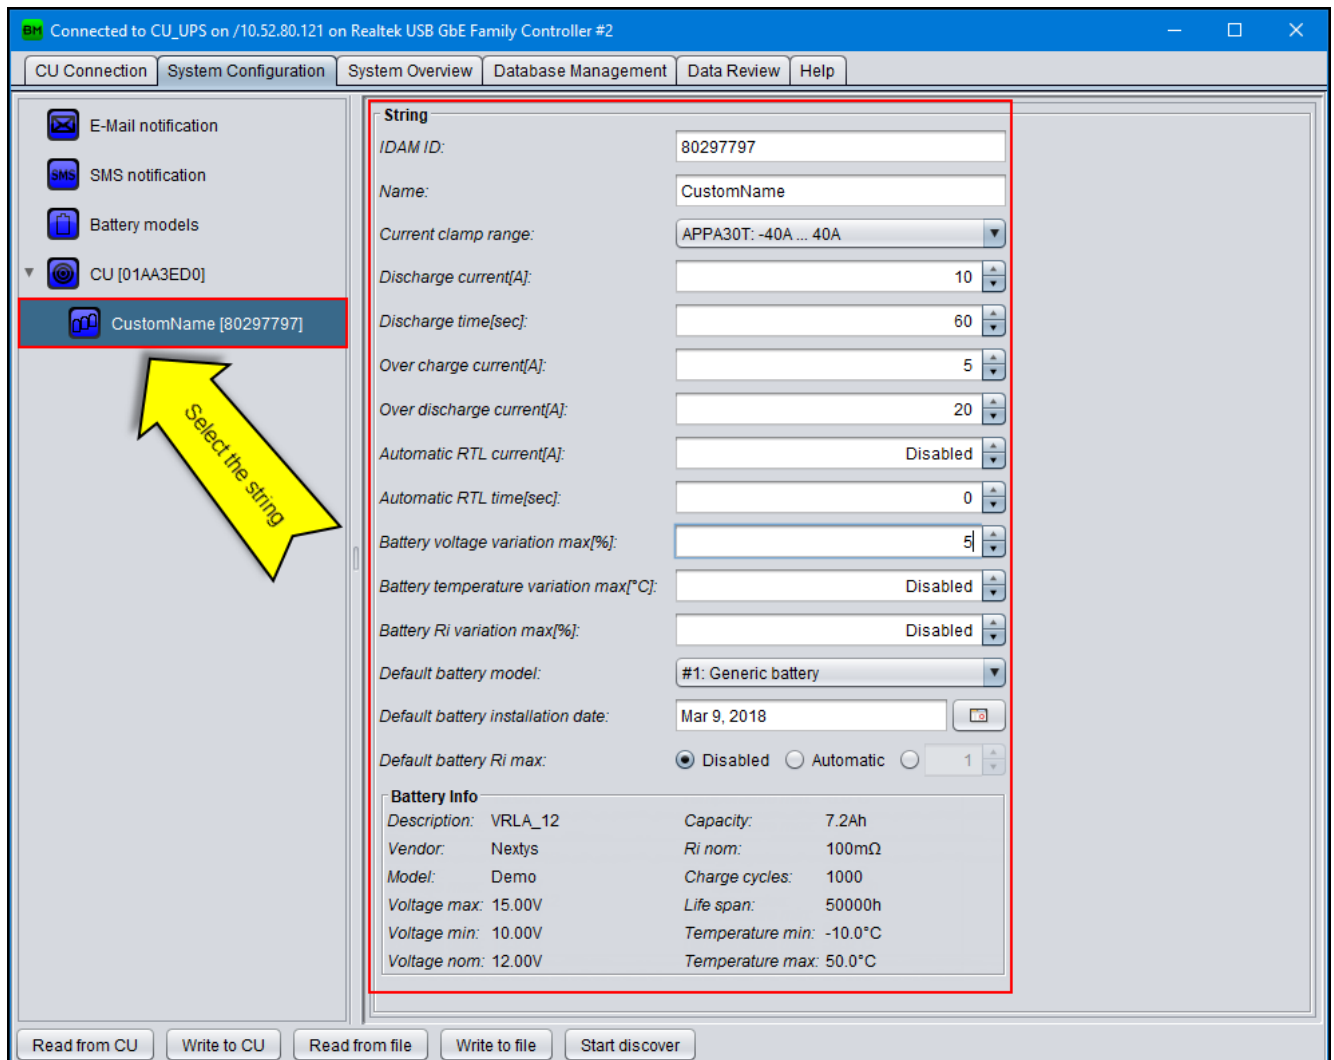

Figure 35: String configuration
2. Select the added string icon as shown in Figure 35 and fill in the following fields:
4. Select the added string icon as shown in Figure 35 and fill in the fields as explained in §7.4.1.